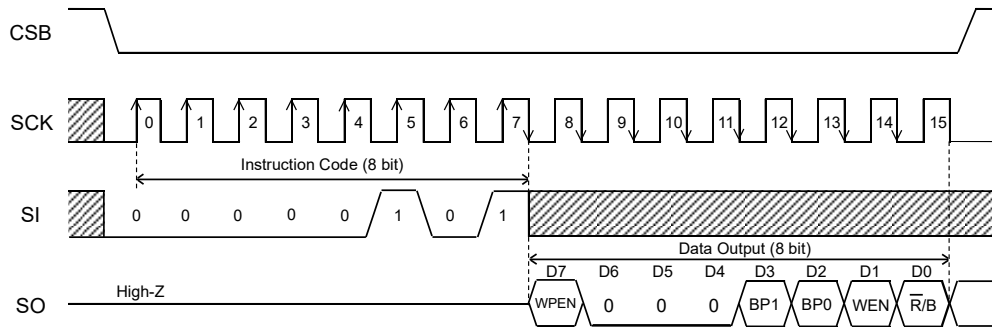
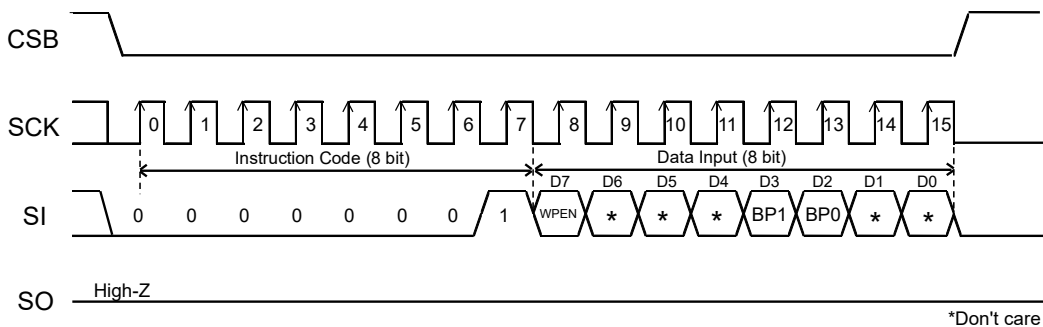

Figure 45. Read Status Register Command
Figure 46. Write Status Register Command
*(Note 19)* Refer to Figure 45 and Figure 46